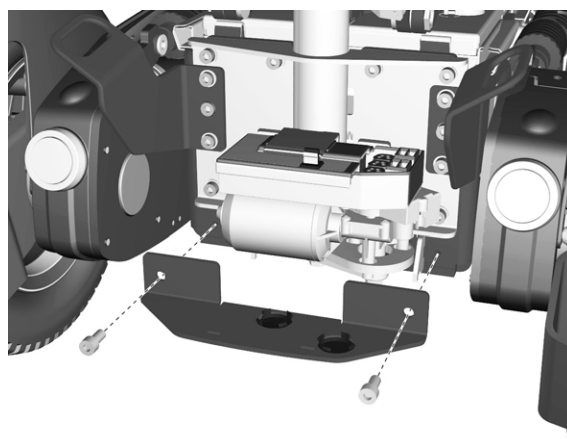

Figure 111. Remove the protective plate underneath the motor.
5. Remove the protective plate underneath the motor, it is attached with two screws. See fig. 111.